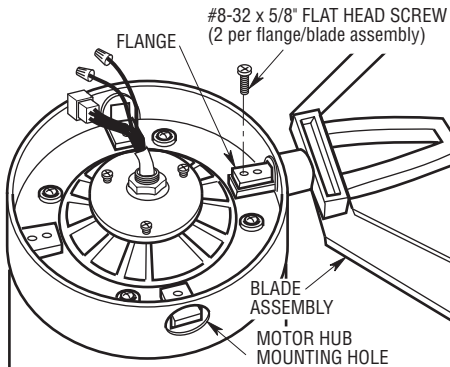

Figure 2
- 3. Insert the blade flange into one of the mounting holes in the motor hub (Figure 2). Align the flange with the slot in the motor assembly. Insert one #8-32 x 5/8" flat head screw (supplied) into one of the flange mounting holes; do not fully tighten. Install the second screw in the same manner; tighten both screws securely.